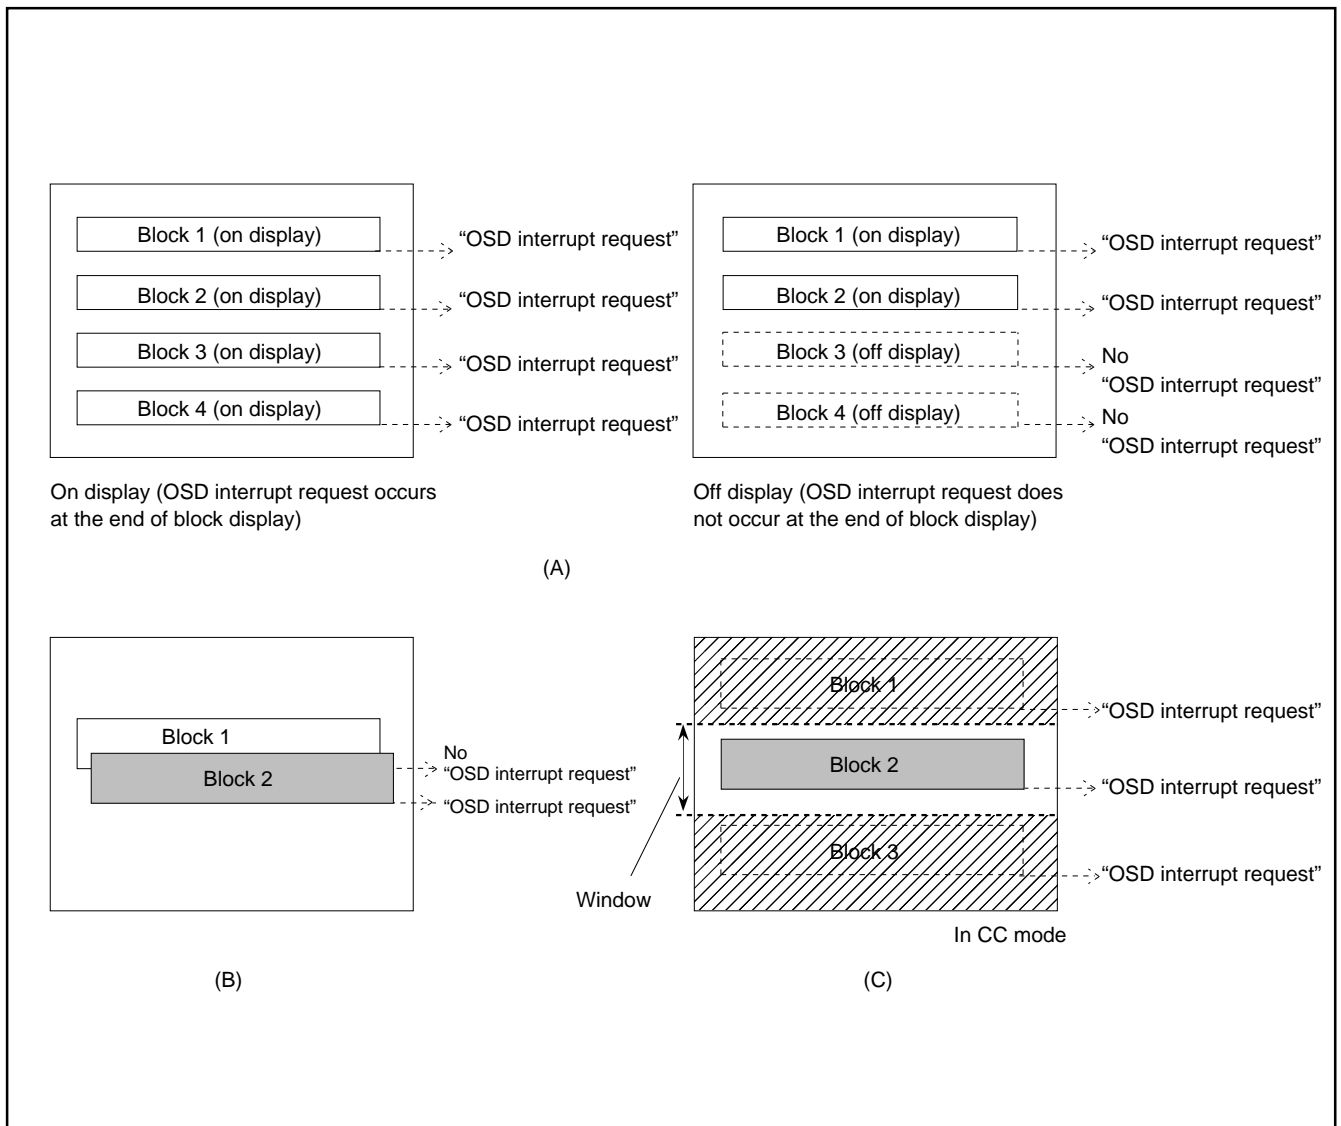

Fig. 93. Note on Occurrence of OSD Interrupt
- Notes 1:** An OSD interrupt does not occur at the end of display when the block is not displayed. In other words, if a block is set to off display by the display control bit of the block control register (addresses 00D016 to 00DB16), an OSD interrupt request does not occur (refer to Figure 93 (A)).
- 2:** When another block display appears while one block is displayed, an OSD interrupt request occurs only once at the end of the another block display (refer to Figure 93 (B)).
- 3:** On the screen setting window, an OSD interrupt occurs even at the end of the CC mode block (off display) out of window (refer to Figure 93 (C)).